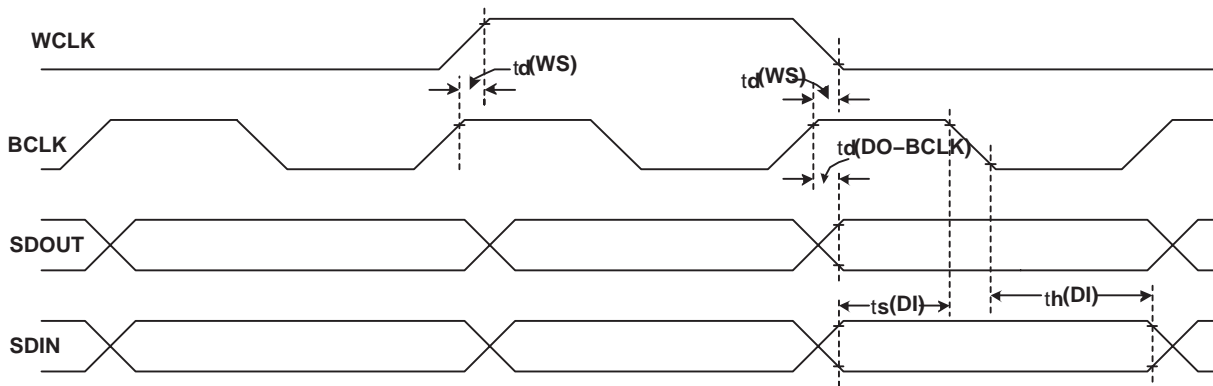

**Figure 1. I2S/LJ/RJ in Master Mode**
**Typical Timing Requirements (see Figure 1)**